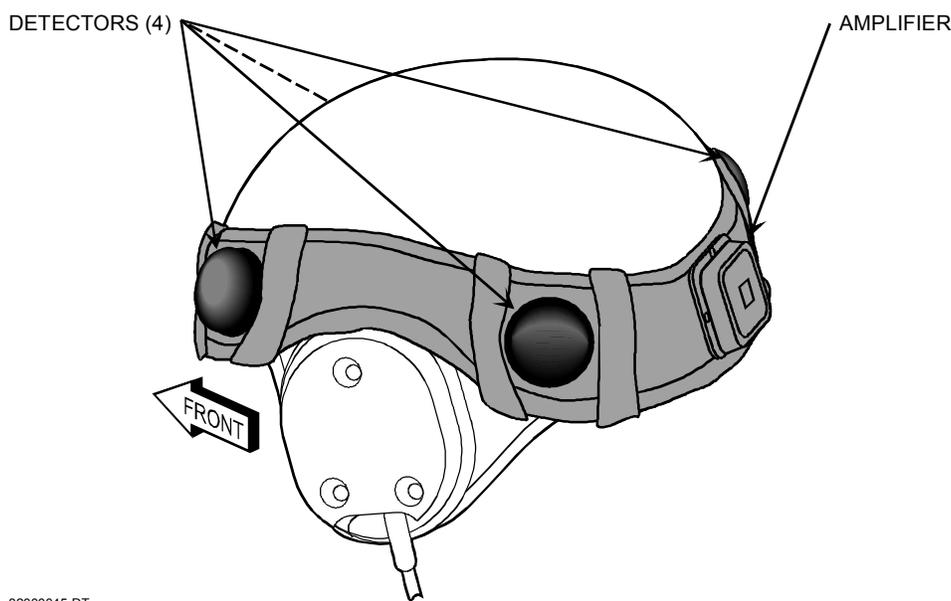

Figure 2-4. CVC Helmet Harness.
2.3.1.1.1 CVC Helmet Harness Installation. (See Figure 2-4.)